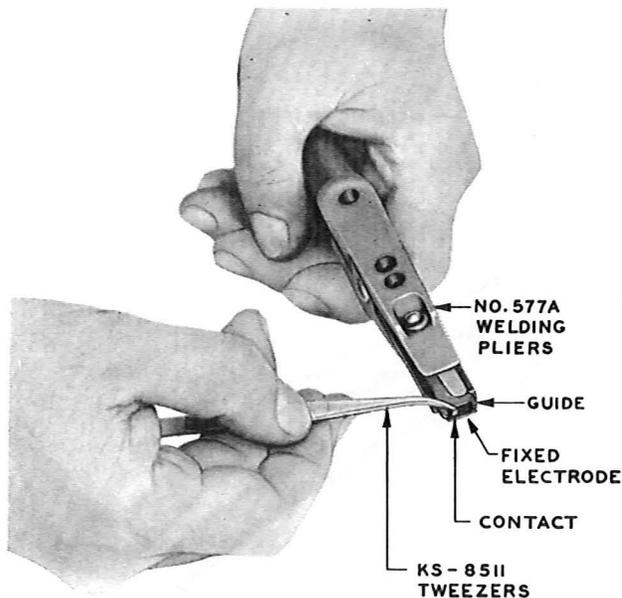

Fig. 8 – Placing Contact in Fixed Electrode
4.19 Place a contact on the proper fixed electrode (Table A) as follows. Move the movable electrode away from the slot in which the contact is to be placed. Pick up a contact with the tweezers, grasping it so that the tang on the contact will be in the correct position for the proper slot in the fixed electrode as shown in Fig. 8. Hold the contact so that its flat face is toward the surface of the fixed electrode